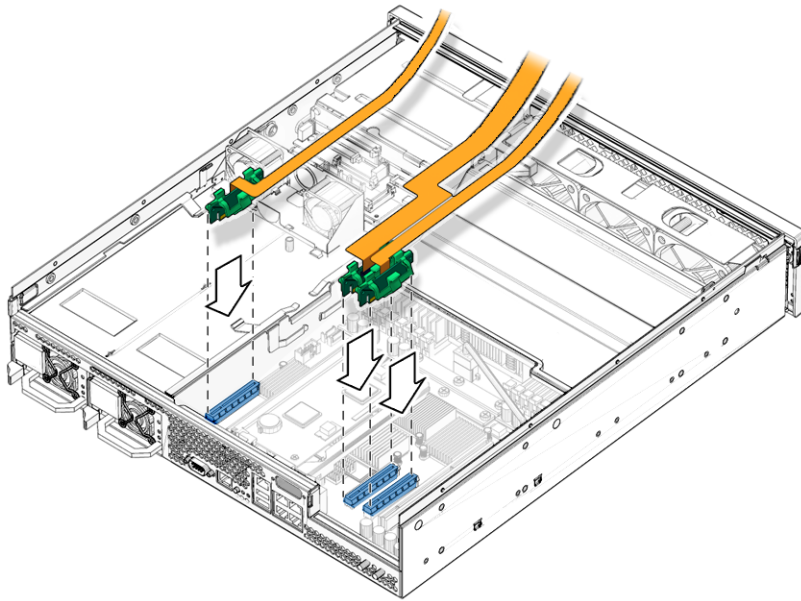

FIGURE 6-1 Reconnecting the PCI Cables
2. Reconnect the PCI cables at connectors J2201, J2202, and J2100 on the motherboard assembly (FIGURE 6-1).